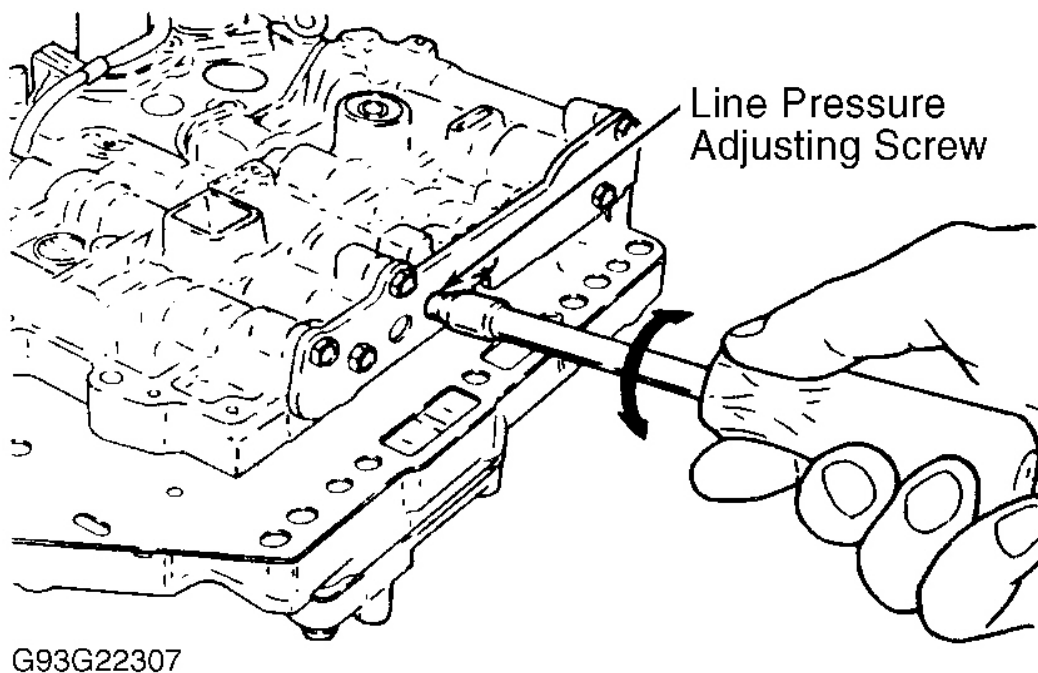

Fig. 2: Identifying Line Pressure Adjusting Screw
2. Rotate line pressure adjusting screw at regulator valve on valve body assembly to adjust line pressure. See **Fig. 2**.